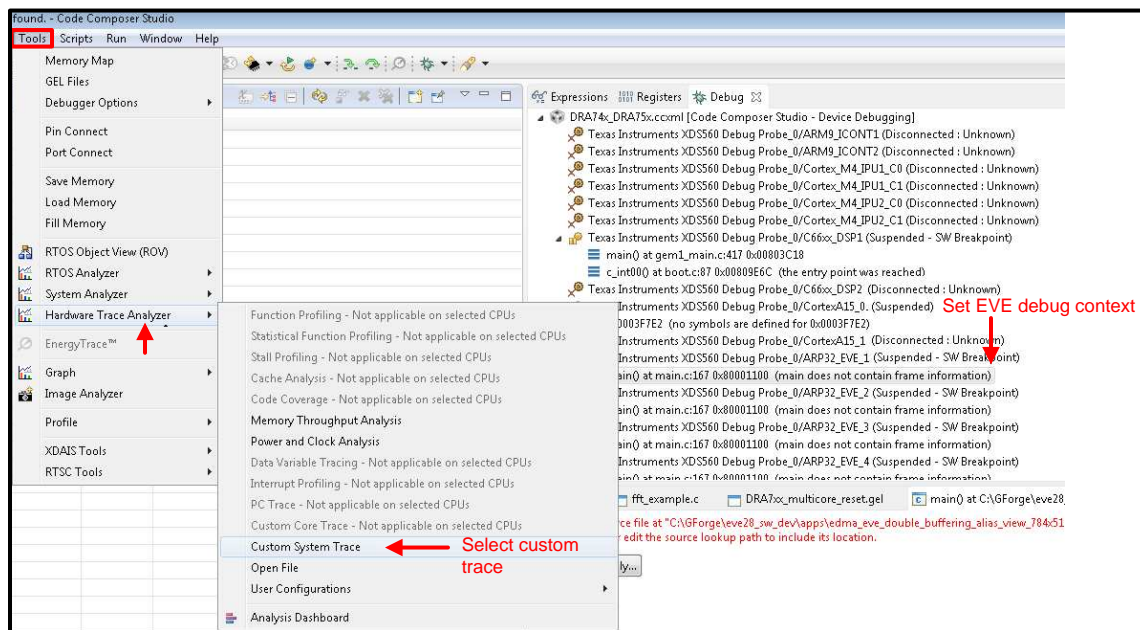

Figure 30. Steps to Enable the EVE SMSET Trace
1. To enable EVE SMSET tracing, select Custom System Trace from the Tools menu (see Figure 30).